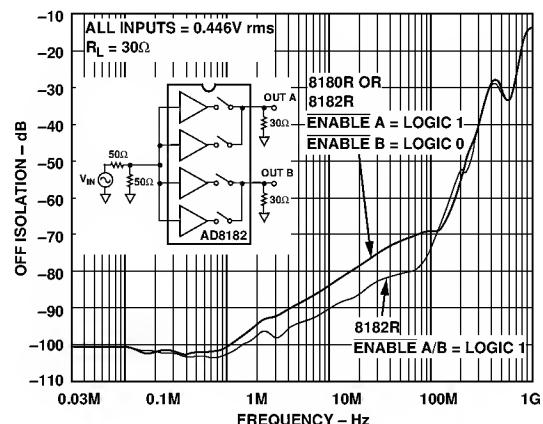

Figure 14. "OFF" Isolation vs. Frequency
- ⁷Mux is disabled (i.e., ENABLE = logic 1) and all inputs are driven simultaneously with $V_{IN} = 0.446$ V rms. Output is monitored at $f = 5$ and 30 MHz. $R_L = 30\text{ }\Omega$ to simulate R_{ON} of one enabled mux within a system (see Figure 14). In this mode the output impedance is very high (typ 10 M Ω), and the signal couples across the package; the load impedance determines the crosstalk.